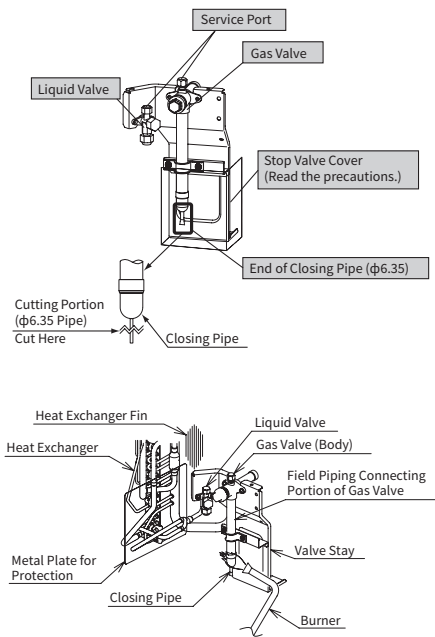

Fig. 5.1 Brazing of Closing Pipe
Step2. Protect the compressor and sound-proof cover with a metal plate when brazing the gas pipe as shown in Fig. 5.1.